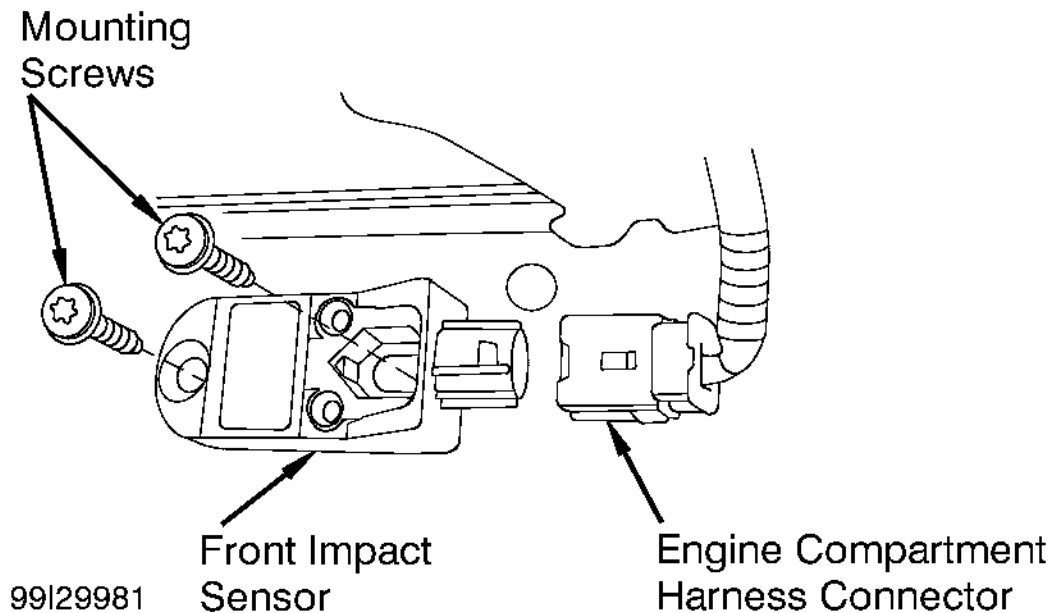

Fig. 16: Identifying Front Impact Sensor
1. Before proceeding, see **AIR BAG SAFETY PRECAUTIONS** . Disable air bag system. See **DISABLING SYSTEM** under DISABLING & ACTIVATING AIR BAG SYSTEM. Remove appropriate front inner fender panel. Disconnect engine compartment wire harness connector. See **Fig. 16** . Using T30 Torx bit, remove front impact sensor mounting screws. Remove front impact sensor.